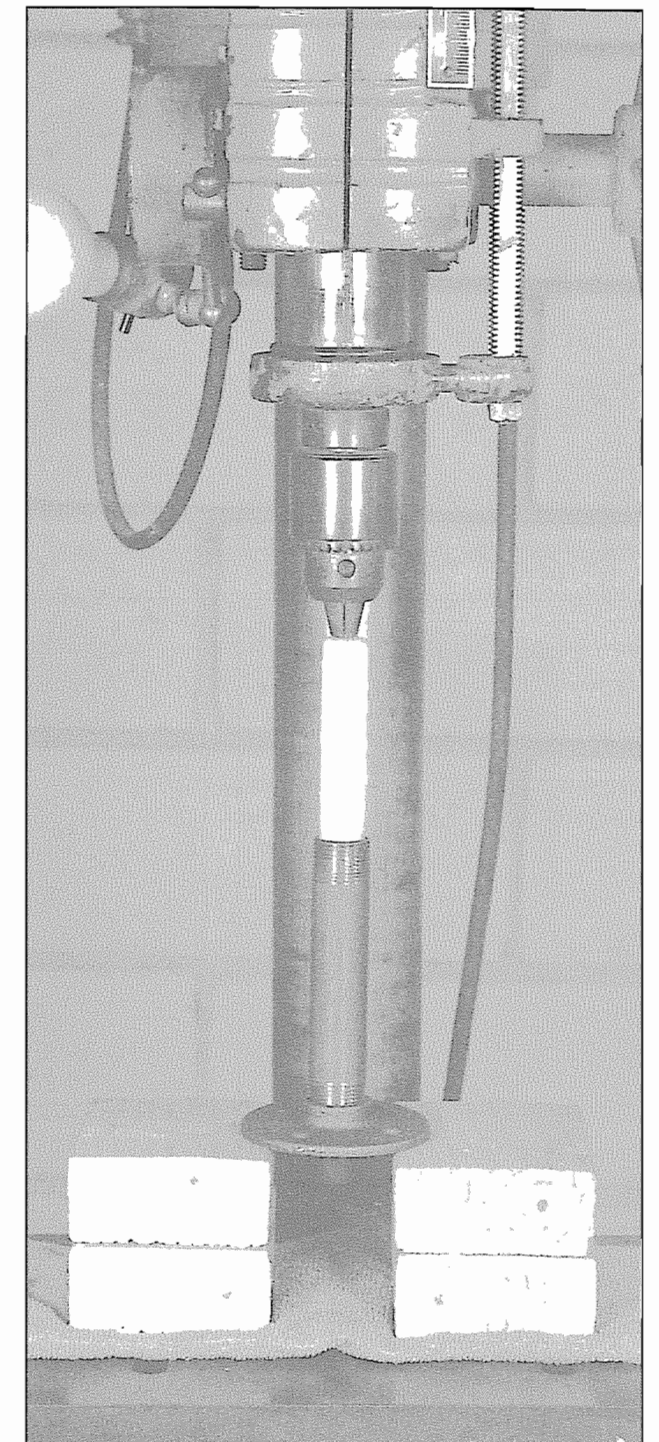

Figure 9-19. The Pellet Test. The drill press's quill-feed lever pushes the finished pellet out onto the rag.
3. On a drill press table, place a pair of wooden or metal blocks with a folded rag between them. Without removing the tamp, lift the pellet mold off the work surface (the short piece of steel will probably fall out), and place it on the blocks. Using the nose of the drill chuck as a press arbor, use the drill's quill feed lever to push down on the tamp, and force the pellet out of the mold and onto the rag (Figure 9-19). Please note that you may have to manually remove the pellet from the end of the tamp by twisting it gently with your fingers.